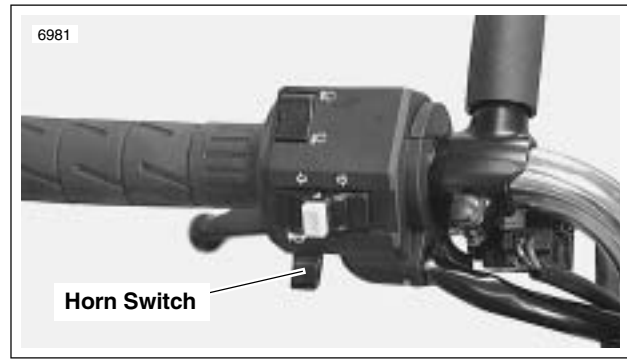

Figure 7-70. Horn Switch
3. See Figure 7-70. Depress horn switch and observe voltmeter reading.